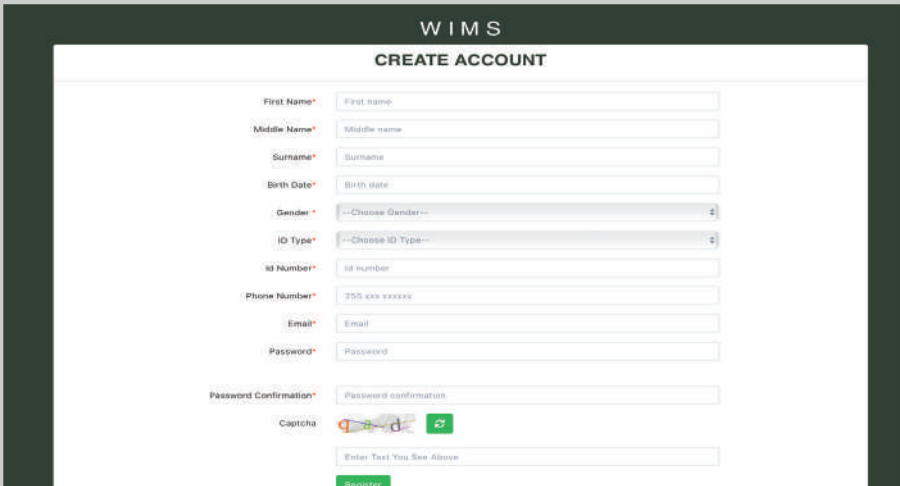

Figure 2: User Create account page
- ii) Fill all fields with required information in the displayed registration form shown in Figure 2;